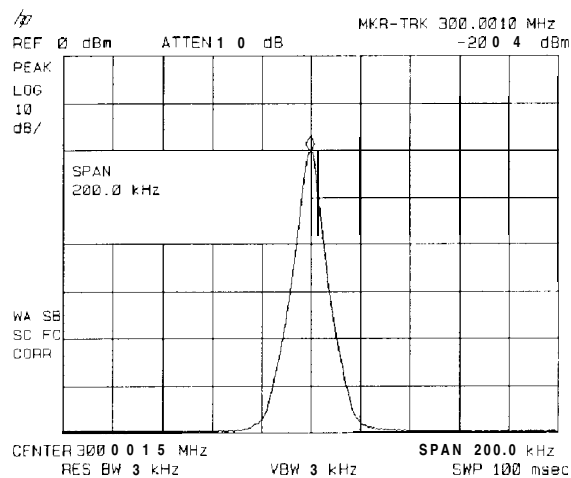

Figure 3-7. After Zooming In on the Signal
2. Press (MKR FCTN), MKR TRACK ON OFF (ON) and the signal will move to the center of the screen, if it is not already positioned there (note that the marker must be on the signal). Because the marker track function automatically maintains the signal at the center of the screen, you can reduce the span quickly for a closer look. If the signal drifts off of the screen as you decrease the span, use a wider frequency span.
3. Press (SPAN), 200 (kHz). The span decreases in steps as automatic zoom is completed. See Figure 3-7. You can also use the knob or step keys to decrease the span or use the PEAK ZOOM function under (SPAN).